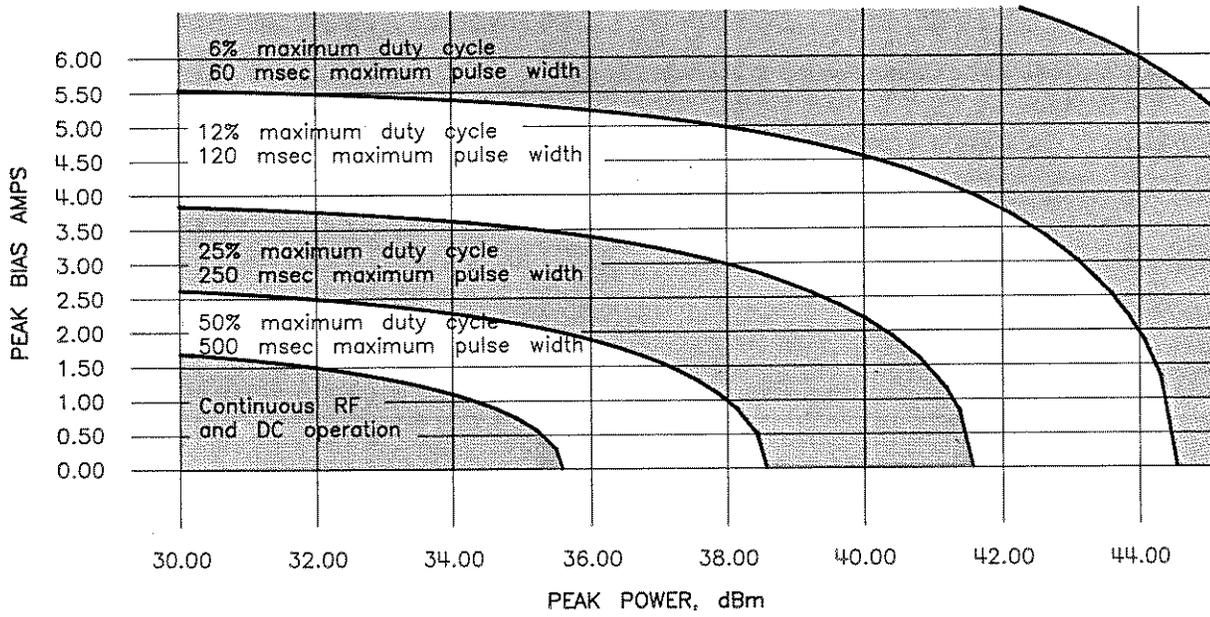

Figure 6. HP 11612A Option 001 Duty Cycle Curves Exploded View
3. Set the current and repetition rate to the appropriate values (taken from the curve in Figure 6).